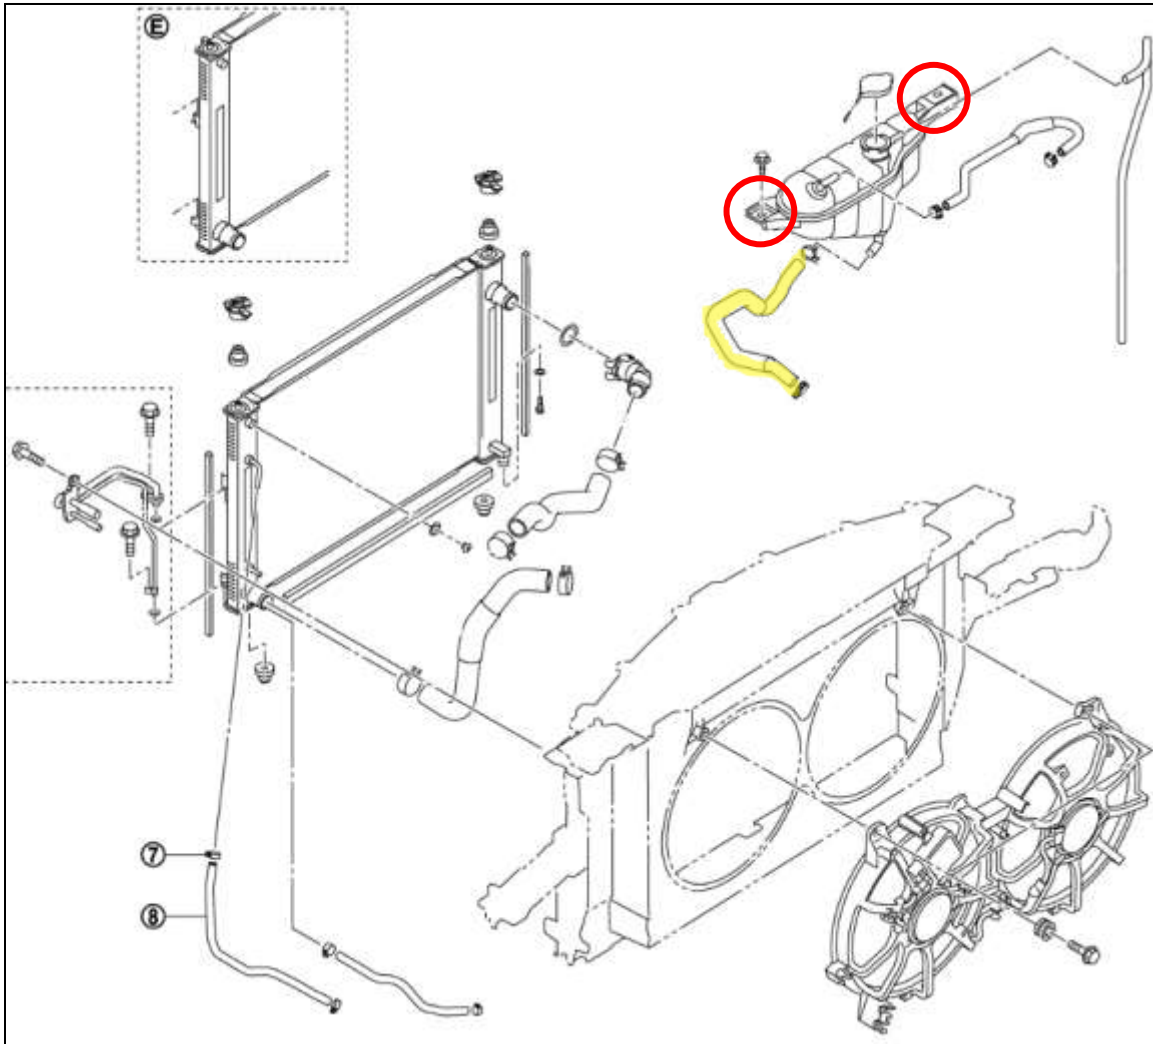

Figure 8
- b. **LATE STYLE CARS:** Remove the hose running from the top of the coolant neck where the upper radiator hose connects (circled on *Figure 7*). Then remove the hose at the bottom of the reservoir from the coolant hard pipe on the driver's side of the engine. The bottom hose is highlighted in *Figure 8* below. Once removed it may leak coolant, be ready to pinch or kink the hose to prevent excess coolant from spilling over the engine bay. Once the (2) two hoses are disconnected, remove the (2) two bolts (circled below, *Figure 8*) securing the reservoir to the vehicle, and lift up to remove the reservoir.